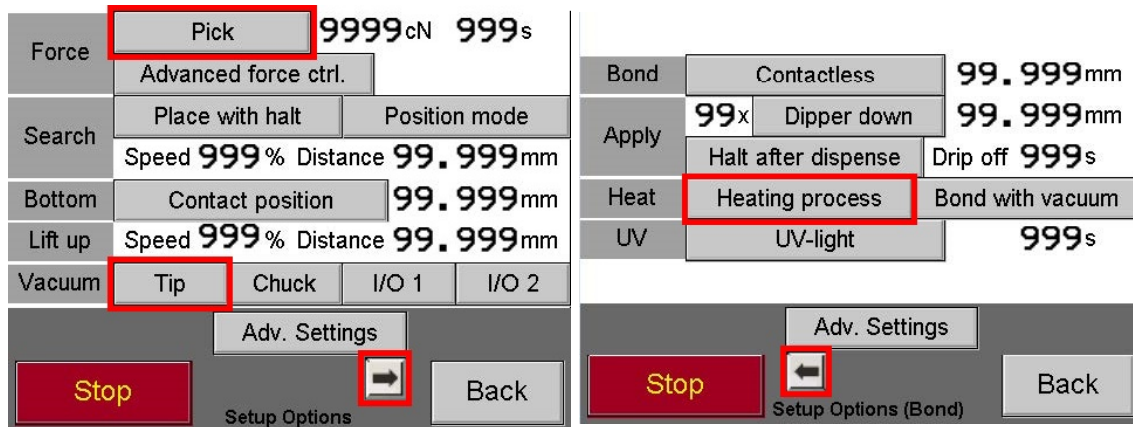

Figure 4: Basic operation: Option screen pages 1 and 2
4. Go to **Options** (a screen like the one to the left in Figure 4 appears). Leave most of the settings on default or see "Setting up a sequence" below for more details.